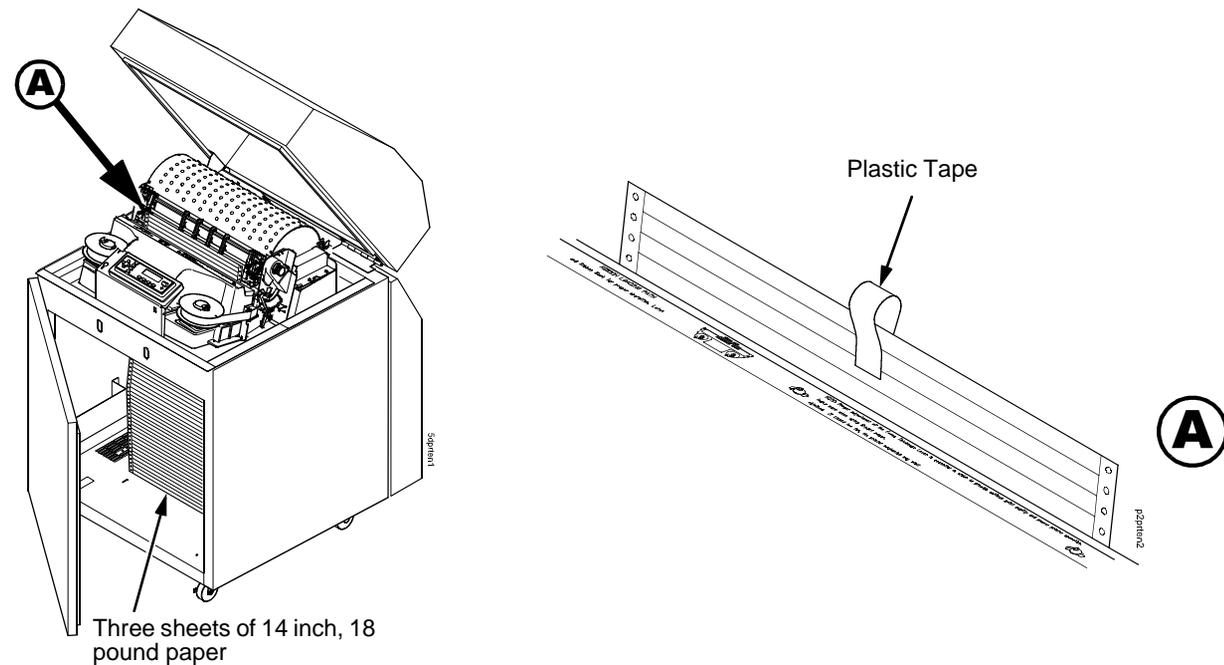

Figure 42. Preparing Paper for Tension Measurement
4. Prepare a length of 14 inch wide paper consisting of three sheets that are still attached at the perforations. (The paper must be single part, 18 lb maximum weight, 0.0036 inch maximum thickness.) Open the cabinet front door and feed the paper up through the print station until the first page clears the ribbon mask by about one inch. (See Figure 42.)
5. Fold a two-inch piece of plastic tape over the top sheet, mid way between the sides, as shown in Figure 42.